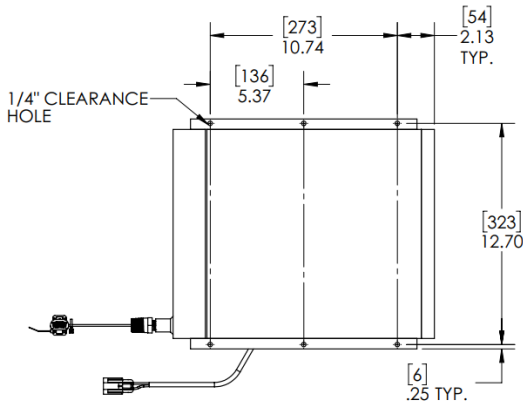

Figure 2 - Cooler Mounting Dimensions
- Place the cooler in position and back drill the mounting holes into the mounting location (Figure 2). Holes are 1/4" clearance holes.